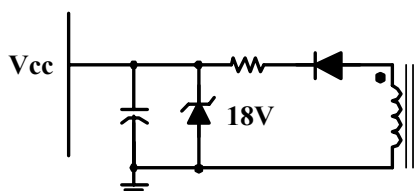

Figure 12. Zener Clamped Vcc Circuit
Then the number of primary turns and secondary turns can be calculated by (9) and (10), respectively. An adequate IC supply voltage is 12V considering the minimum operating voltage and the over voltage protection level. In this design example, the number of Vcc windings is selected so as to be the same as that of the secondary windings, namely 10 turns. If the number of windings is too small, the supply voltage can touch minimum operating voltage at no load; then the UVLO circuit comes into operation, increasing the power loss. If the number of windings is too large, the supply voltage can reach the over voltage protection level. If it proves difficult to prevent over voltage protection operation in normal mode, the circuit as shown in Fig. 12 is recommended for the Vcc circuit.